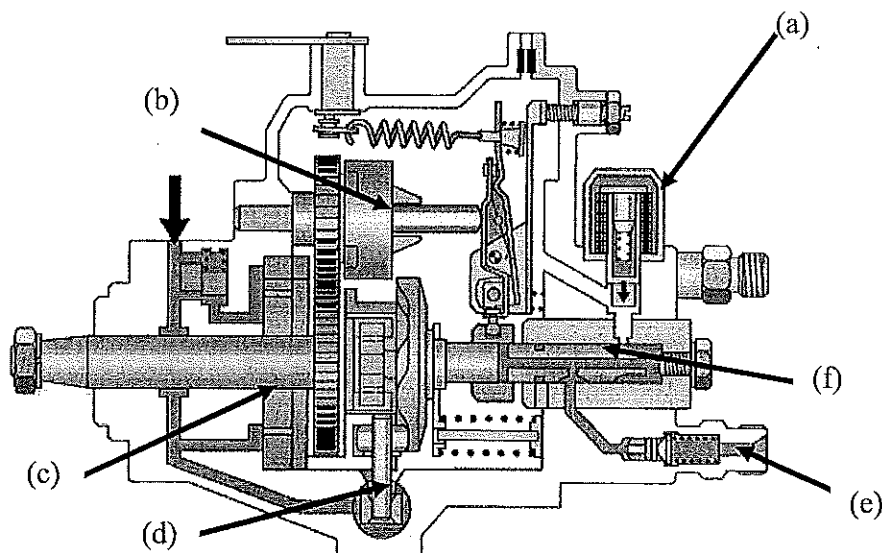

Figure Q4
- i) Identify the components (designated as a to f) of the sub-unit of an engine shown in Figure Q4.
- ii) Referring to these components in figure Q4, explain the operating principle of the sub unit.